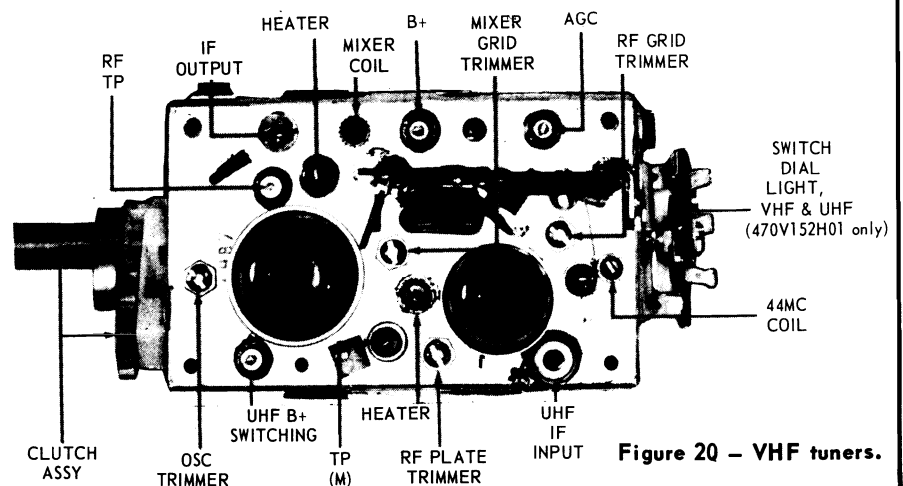

Figure 20 - VHF tuners.
| 5. | CW generator to TP (M) (see Figure 20): a. 44.25 MC b. 44.25 MC c. 47.25 MC It may be necessary to increase generator d. 47.25 MC output and/or remove the ground from TP (A). | Tuner mixer output coil: Maximum on VTVM T200: Maximum on VTVM L202: Minimum on VTVM L203: Minimum on VTVM |